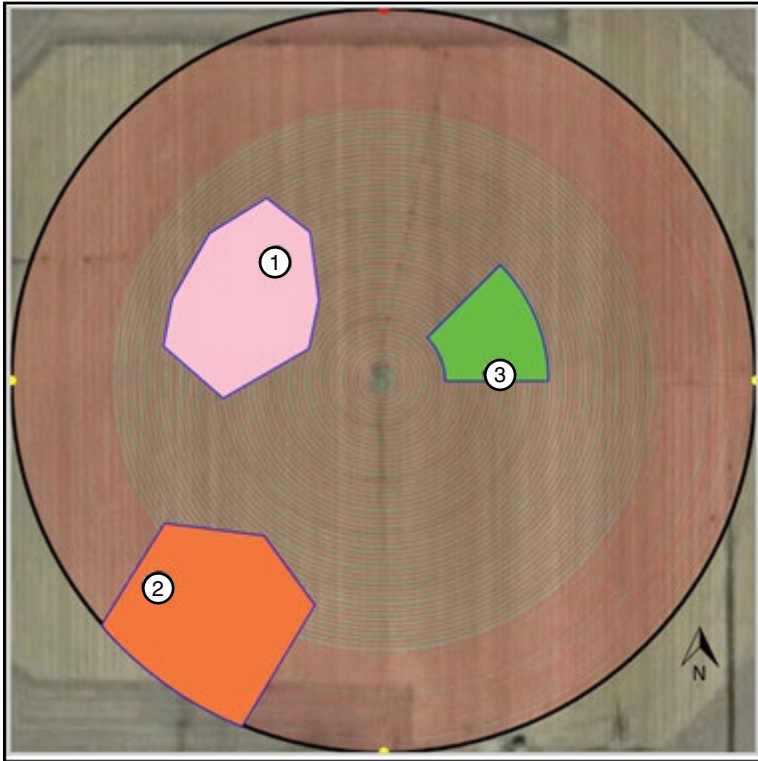

Figure 20-1 1. Polygon Tool Applied (95%) 2. Polygon Tool Applied (15%) 3. Manual Entry Tool Applied (10%)
5. Select the areas of the Zone Control prescription grid on which to apply the watering rate. See Figure 20-1.
The example in Figure 20-1 displays the effect of using each of the drawing tools. Note that when you apply the Sector Ray tool (2) after first applying the Circular Sector tool (1), the Sector Ray overrides the Circular Sector. Likewise, applying the Circular Sector tool (3) after the Sector Ray tool (2) will cause another override.